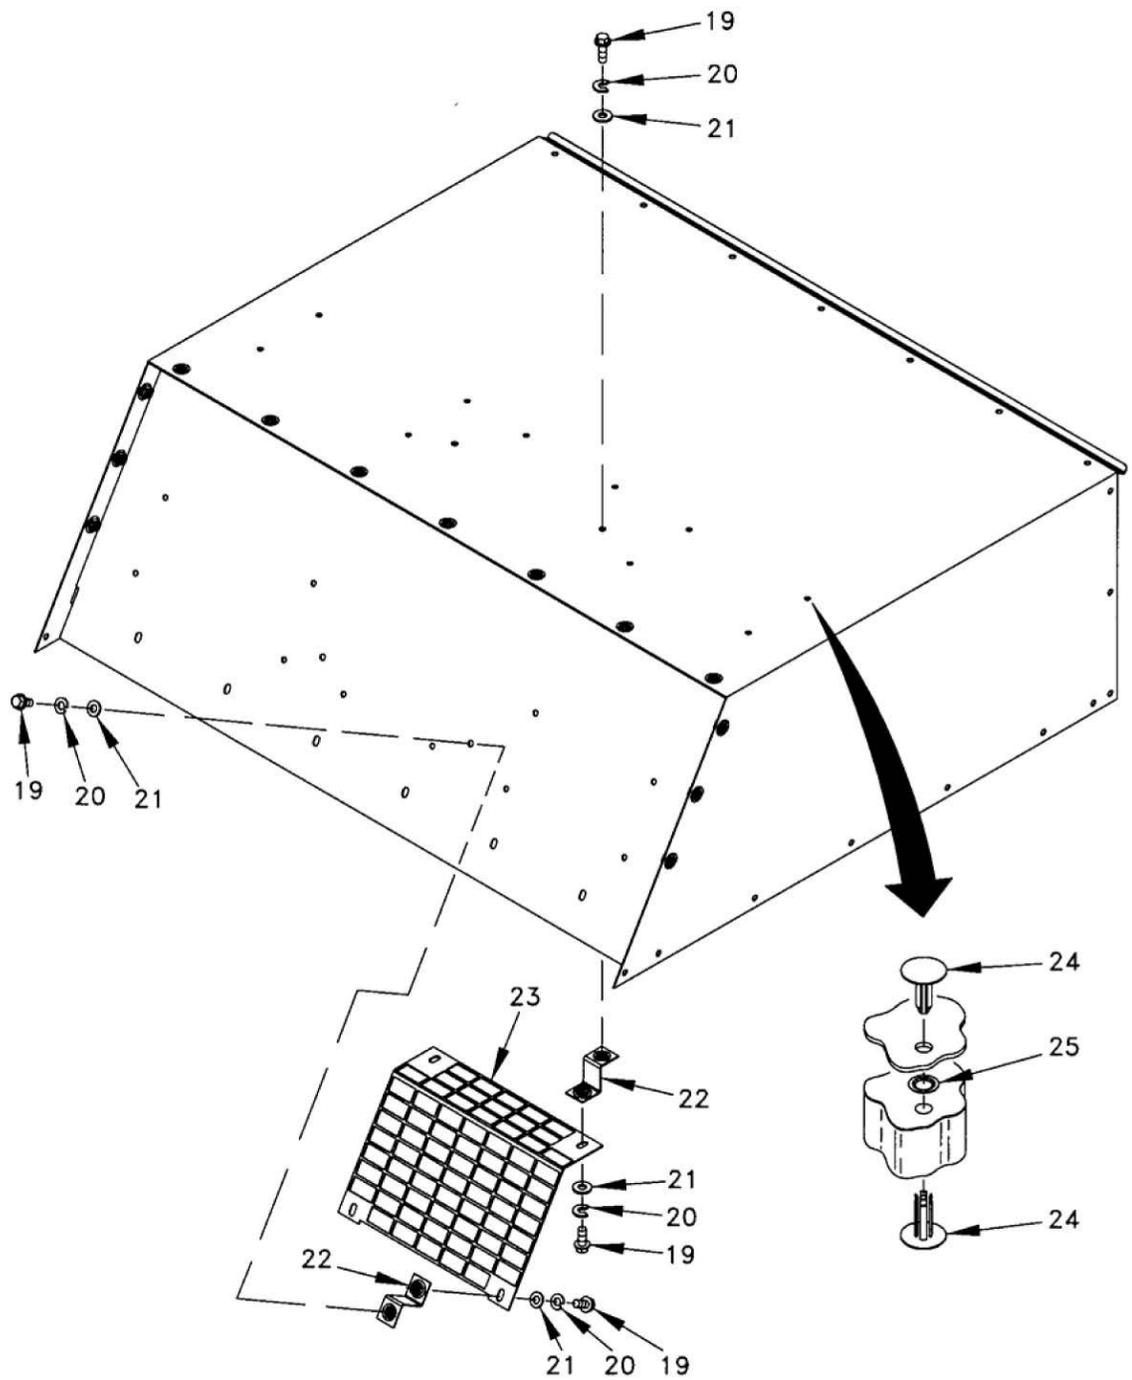

Figure 1. Rear Roof Section Housing Assembly (Sheet 2 of 2).
3. Remove six screws (Figure 1, Sheet 1, Item 8), lock washers (Figure 1, Sheet 1, Item 9), and washers (Figure 1, Sheet 1, Item 10).